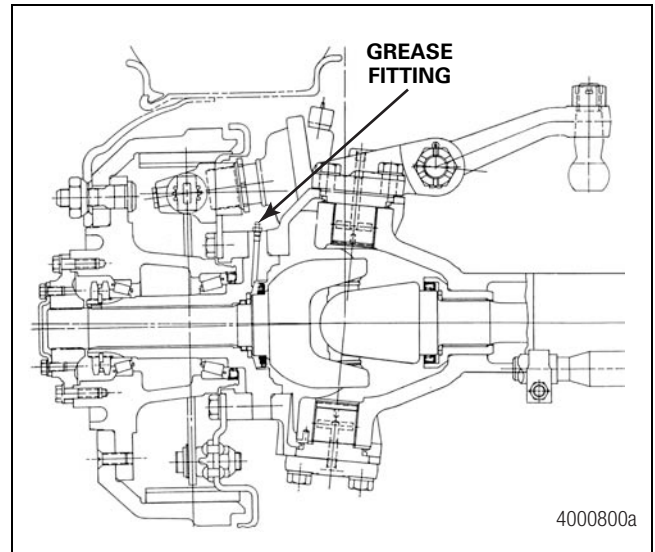
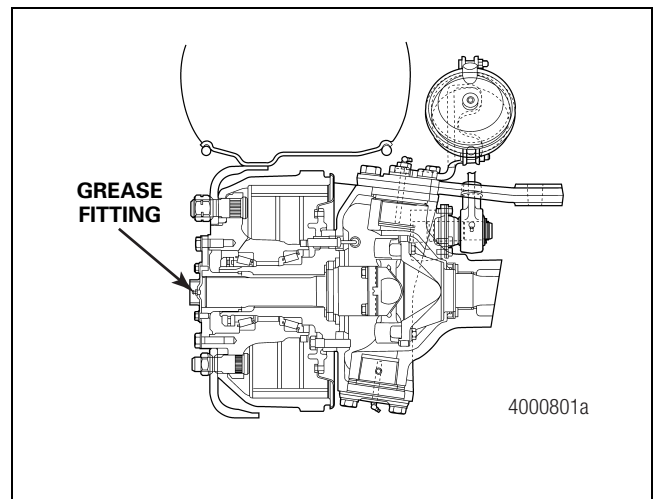

Figure 7.3
Figure 7.4
5. Before installing the wheel bearings, lubricate the bearing journals on the spindle with the grease that is used for the bearings. Figure 7.3 and Figure 7.4.